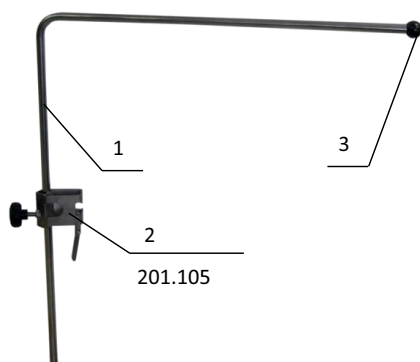

Figure 1. Anesthesia screen.
1. Anesthesia screen (a screen for anesthesia) (Figure 1). Made of stainless steel, adjustable in height. For fastening to the guide rails of the table, it is equipped with a radial clamp.